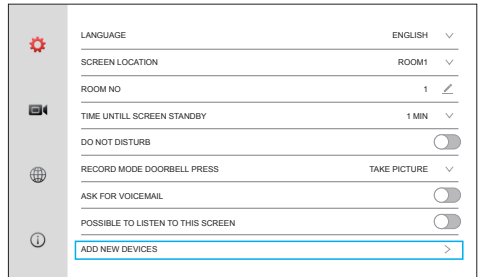
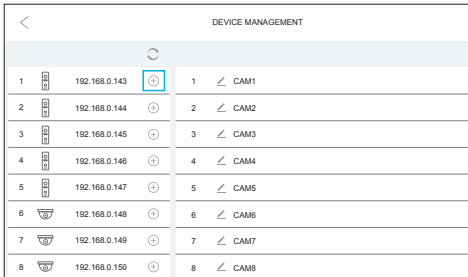

Figure 1
Figure 2
Step 1: At the standby state, press , to enter system main menu, Click , to enter the interface as Figure 1, then click "ADD NEW DEVICES" to see Figure 2.